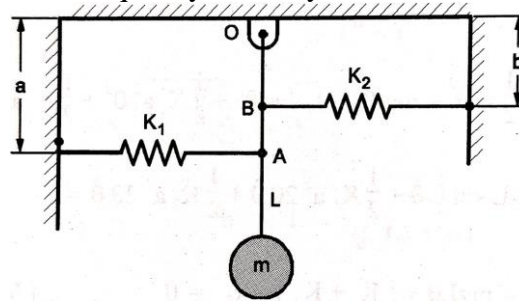

Fig.2.
b) Determine the natural frequency of the system shown in Fig.2.